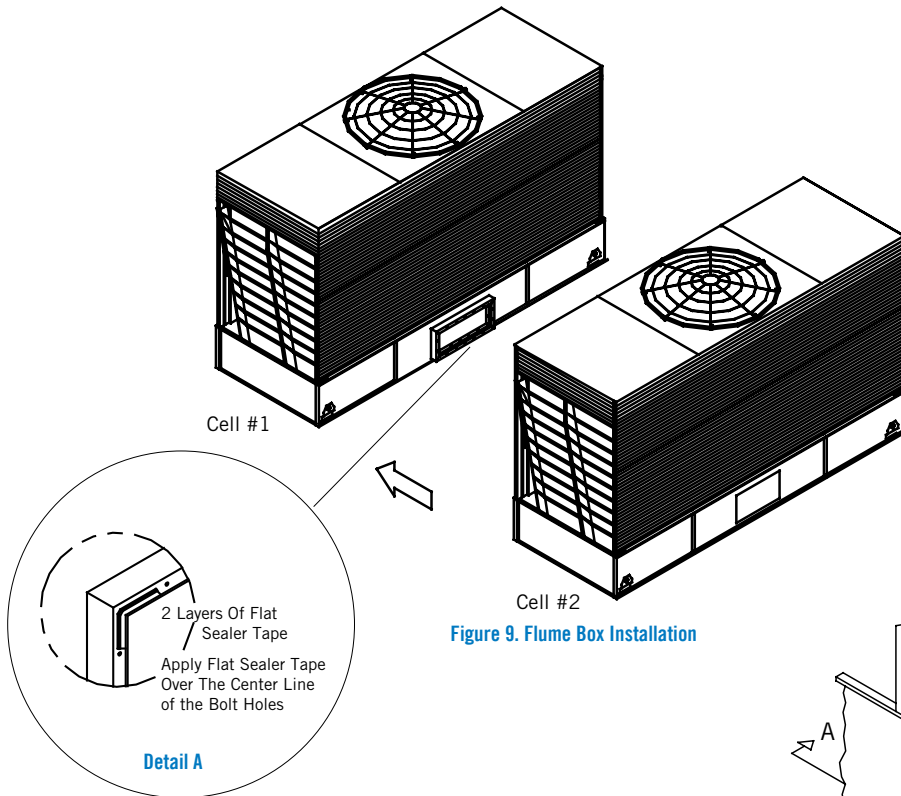

Figure 9. Flume Box Installation
3. Wipe down the flanges on both ends of the flume box. On one end, apply a layer of flat butyl sealer tape (BAC part # 554000) around the face of the flange over the centerline of the holes. Do not overlap or stretch too thinly at the corners. When it is necessary to splice the sealer tape, be sure to press the two ends together to form a smooth, continuous strip. Apply a second layer of flat butyl sealer tape over the first layer following the same procedure. Refer to **Figure 9, Detail A**.